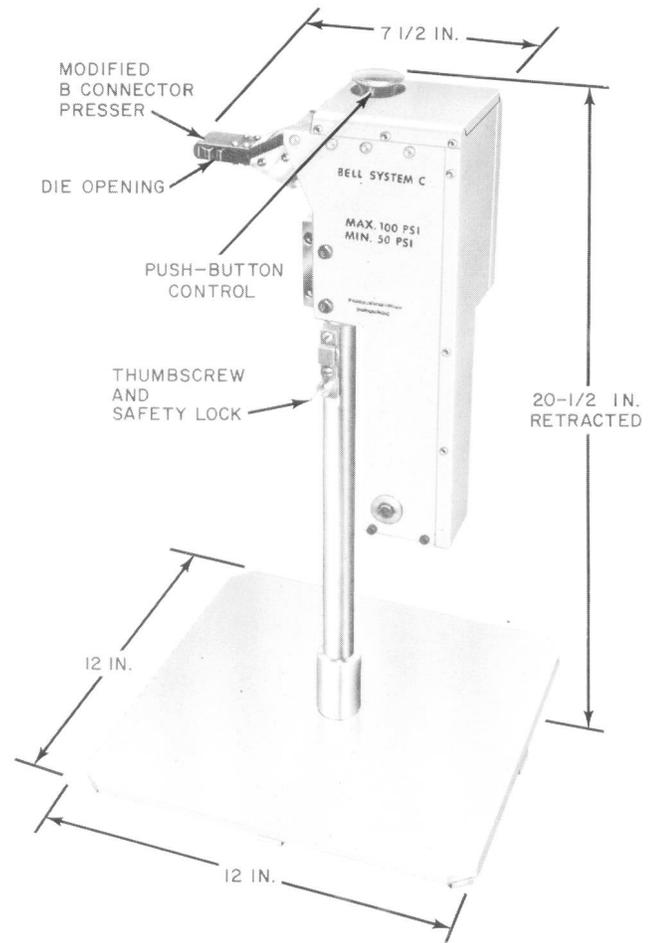

Fig. 1—C Connector Presser—Retracted
2.01 The C Connector Presser (Fig. 1 and 2) consists of the following:
2.08 The C Connector Presser is operated by pushing the control button at the top of the presser housing (Fig. 1). Depressing the pushbutton activates a pilot valve that causes the pneumatic cylinder ram to fully close the movable handle of the presser, provided that the operating